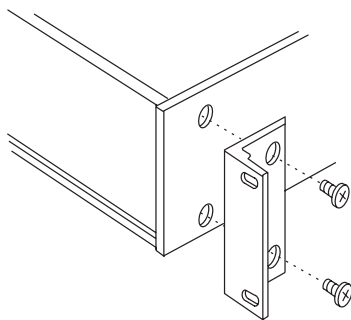

Figure 7
- Align the rack mount bracket with the holes on the side of the unit. See Figure 7.